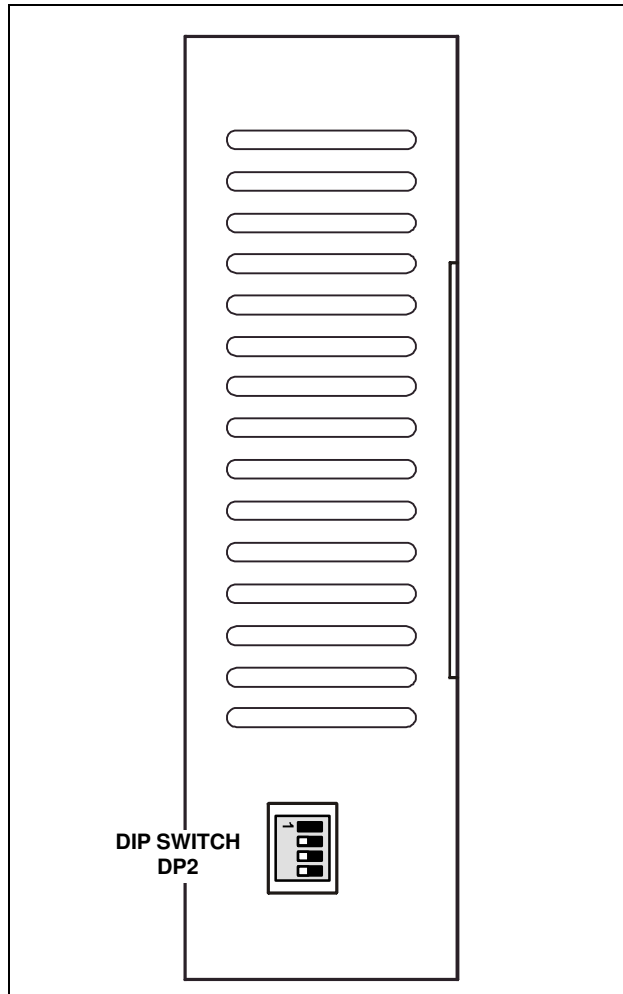

Fig. 5 – Dip-switch DP2 (PLUS B series drives bottom side view).
6.3-Fig. 5 shows the position of DIP-SWITCH DP2 located on the bottom side of PLUS B series drives.
Table 5 shows the position of dip 1, 2, 3 and 4 of **DP2** (see Fig. 5) and the corresponding operation mode.